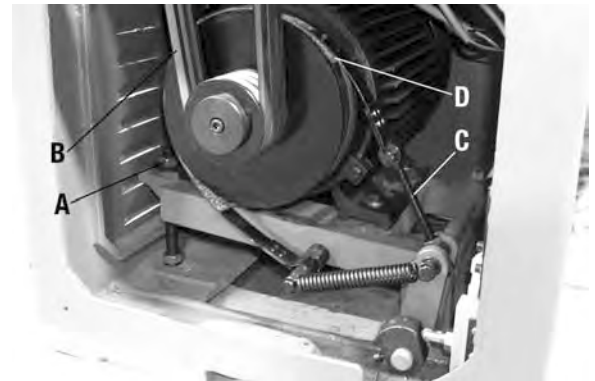

FIGURE 38
2. Adjust the belt tension hex. nuts (A) Fig.38 until there is approximately 1/2" belt deflection on each belt (B) when pressed firmly in the centre between the pulleys.
2. Adjust the brake rod (C) Fig.38 so when the foot pedal is pressed, the brake band (D) firmly clamps the drum. The brake band should be replaced once it has worn down to approximately 2mm thick.